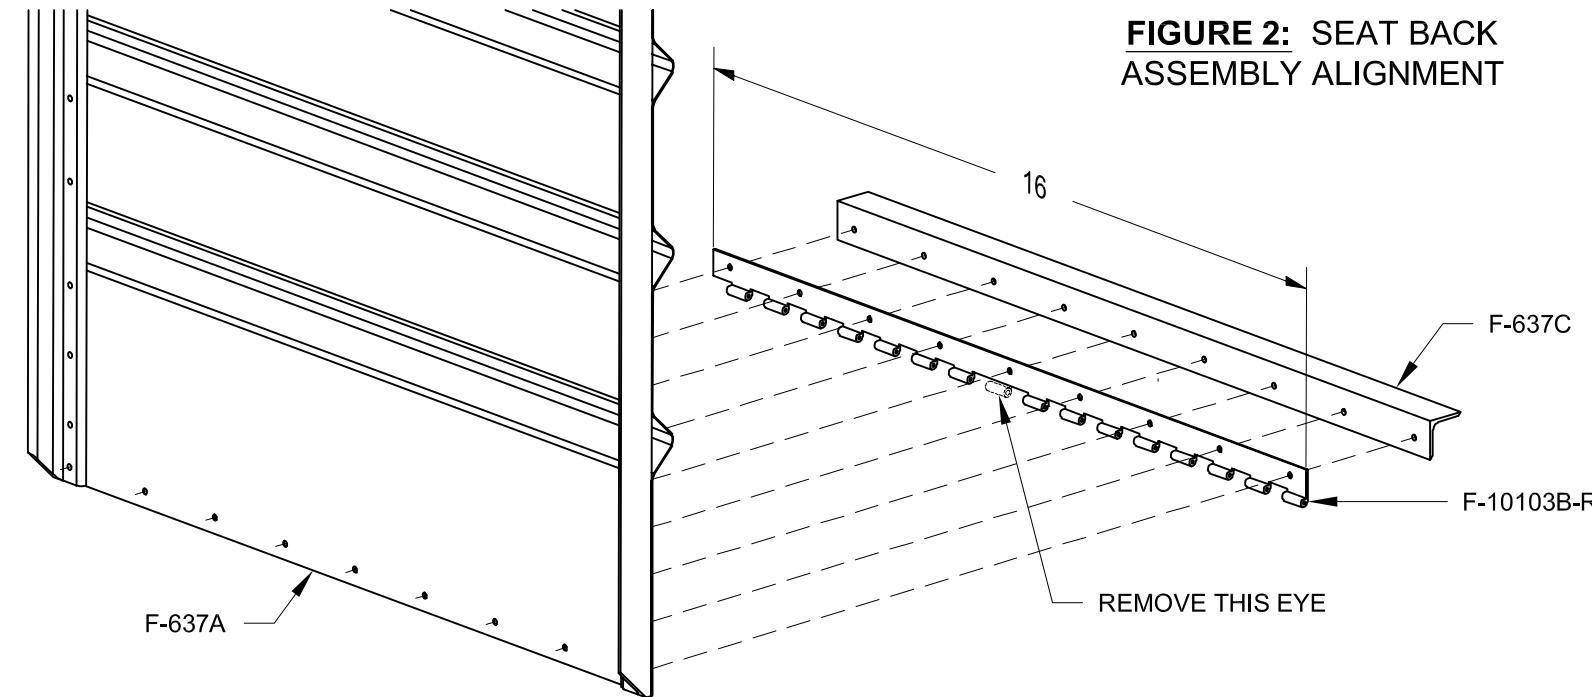

FIGURE 2: SEAT BACK ASSEMBLY ALIGNMENT
Step 5: Make the Right Seat Back Assembly by aligning the bottom edge of one of the F-637A Seat Backs with the F-10103B-R Right Upper Seat Hinge Half and one of the remaining F-637C Angles. See Figures 2 and 3.